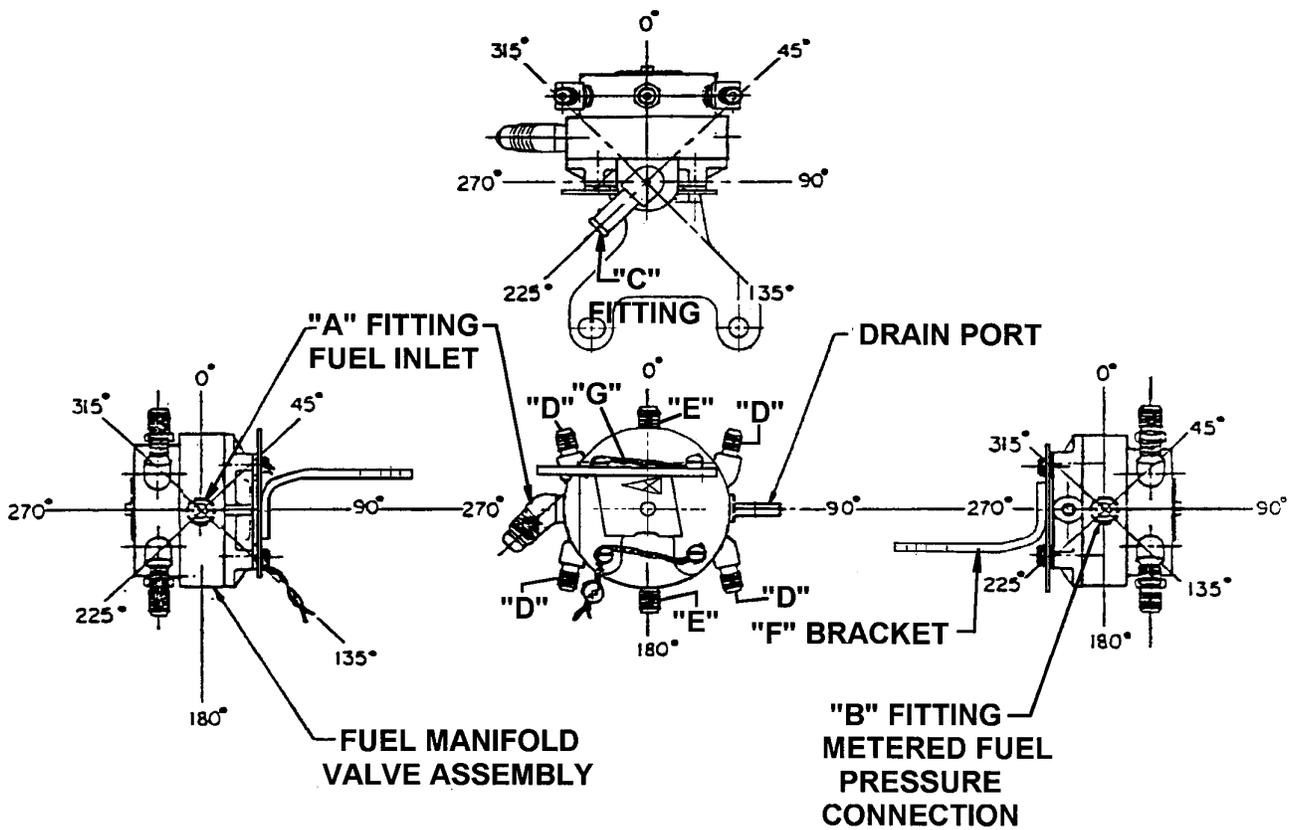

FIGURE 9-1. FUEL PUMP FITTING LOCATIONS
1. See Figure 9-1, "Fuel Manifold Valve Fitting Orientation." Remove fittings "A" through "C."
1. See Figure 9-1. Sparingly apply TCM 646940 F/I sealant on fittings that have male tapered pipe threads in accordance with Figure 9-7, "General F/I Sealant Application." Install fittings "A" through "C" into fuel manifold valve at the proper locations and correct orientations.